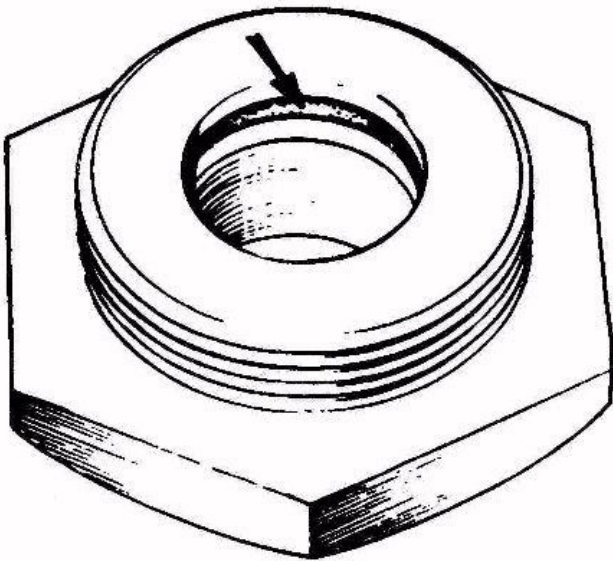
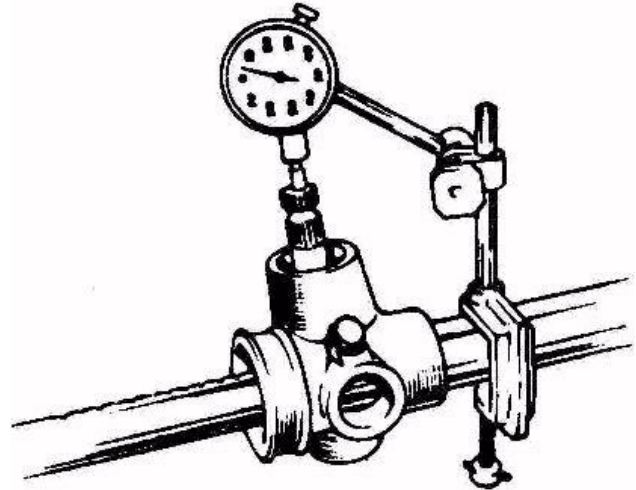

Fig. 11 - 'O' Ring in the Retaining Ring.
Fig. 10 - Measuring Pinion End Float.
- b/ Mount a dial gauge on the tube as shown in Fig. 10. Push the pinion down to its limit and zero the dial gauge. Lift the shaft until the retaining ring contacts the circlip and note the dial reading. This represents the total pinion shaft end float. Remove the circlip and withdraw the pinion shaft assembly. Remove the retaining ring and fit a new rubber 'O' ring (See Fig. 11).